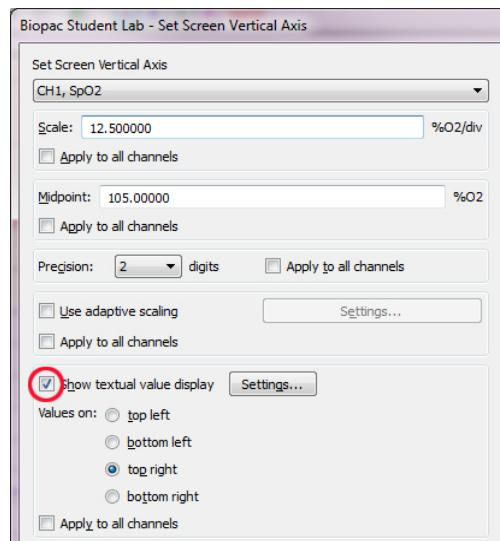

Figure 5
9. It may be useful to enable **textual value display** in order to show the numerical values for SpO₂ during the recording. This option is not available in software prior to BSL 4.0. To enable, position the arrow cursor over the numerical values in the vertical scale region and click the mouse button. The dialog shown in Figure 5 will appear. Check the “**Show textual value display**” box and click “OK” to close the dialog.